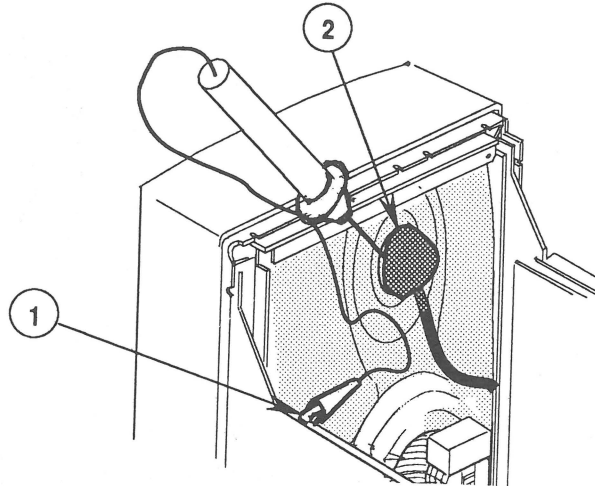

FIGURE 6
4. Attach the clip of the CRT discharge tool to any metal part of the chassis (Figure 6, #1).
6. Hold the CRT discharge tool to the tube surface, and insert its probe under the anode cap (Figure 6, #2) until it touches the anode ring.